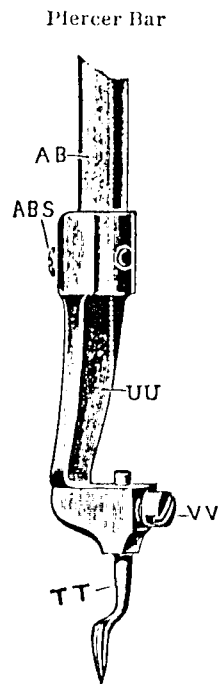

Fig. 19
Should it be necessary to remove piercer (TT, see Fig. 19) it is preferable to detach holder (UU) at screw (ABS).